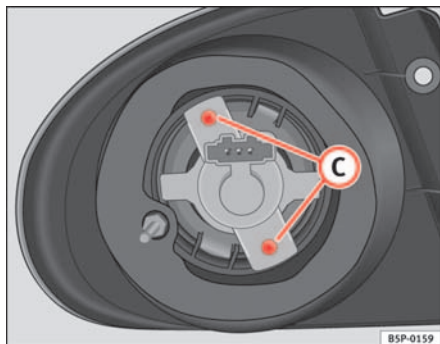

Fig. 183 Indicator lights
- Unscrew the bolts ⇒ page 248, fig. 183 **C** from the lamp holder and pull on this.
- Unscrew the bolts ⇒ fig. 183 C from the lamp holder and pull on this.